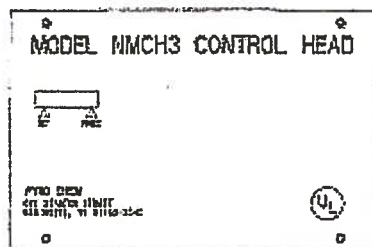

Figure 2-6a. Mechanical Control Head.
- The Model NMCH3 Mechanical Control Head is a fully mechanical control head which can be connected to the PCI-15/17/25s/35/50s/70 cylinder valve. This control head will support a fusible link detection system, a remote mechanical pull station (Model RPS-M), and a mechanical or electric shut-off valve. A micro switch (Model MS-SPDT, MS-DPDT, MS-3PDT, or MS-4PDT) can be ordered separately and field installed. There is no local manual actuation for the Model NMCH3. The Model NMCH3 control head can actuate a maximum of five (5) cylinders. See Figure 2-6a.